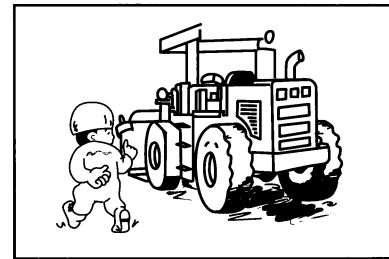

Figure 2-5
- Keep the working area clean and orderly. Do not get oil and grease scattering to all over the working areas. Avoid firing and slipping. (Figure 2-5)